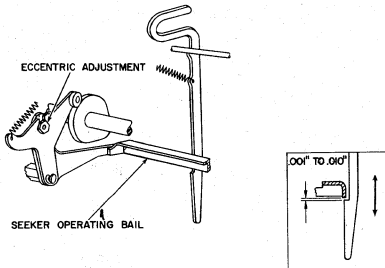

Figure 3
2. Adjust the eccentrics between the cam follower arms and the operating bail arms so that the operating surface of the operating bail is $.001''$ to $.010''$ above the seeker shoulders just as the seekers reach their extreme forward position (Figure 3). Keep the high lobes of the eccentric studs up and be sure that the clearance is equal across the translator.